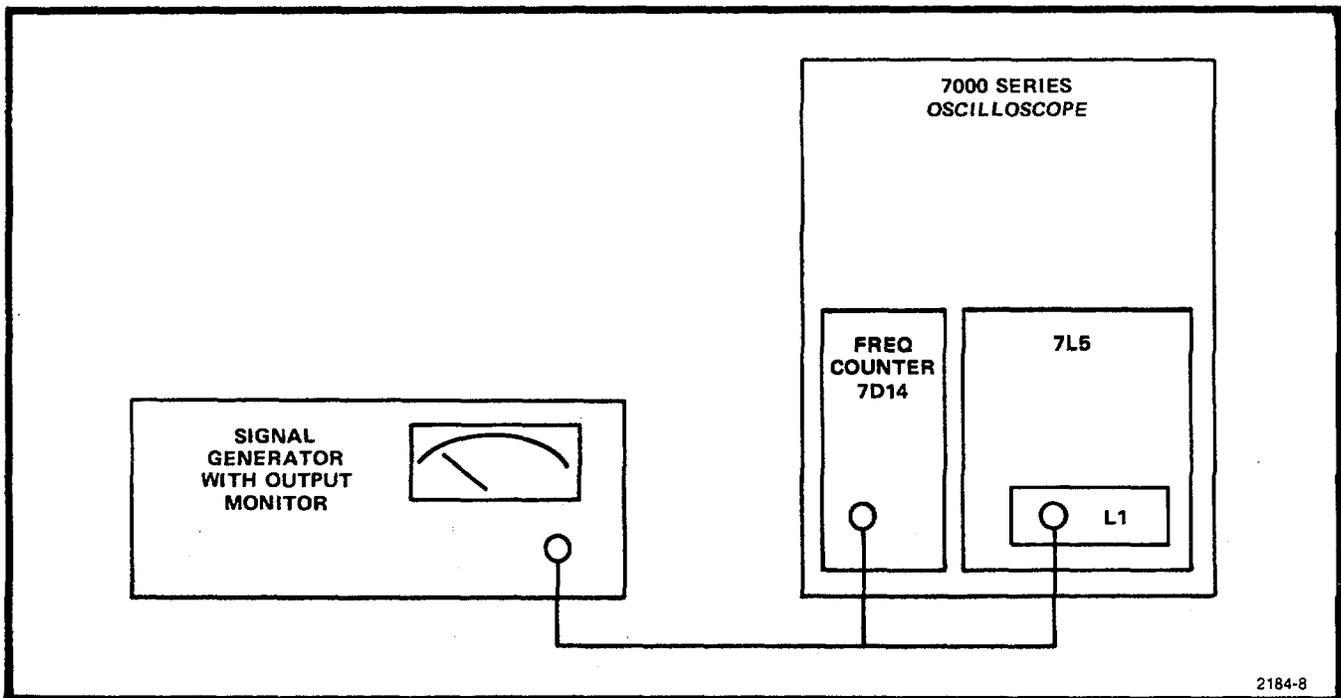

Fig. 3-2. Dot frequency range and display flatness test setup.
- a. Connect test setup per Fig. 3-2. Set triggering to NORM and FREE RUN and set the other front panel controls as follows:
a. Connect test setup per Fig. 3-2. Set the front panel controls as follows:
a. Connect the test setup in accordance with Fig. 3-2 using a stable signal generator; (A frequency should be equal to or less than 0.5 Hz/hour).